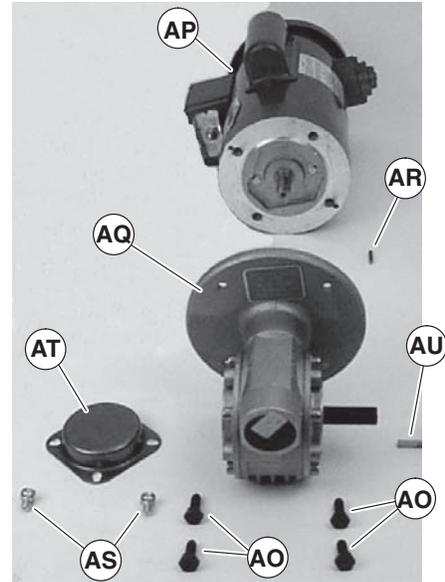

Figure 28
- Remove four screws (Figure 28, item AO). Detach motor (AP) from gear reducer (AQ). Retain motor output shaft key (AR).
14. With key (Figure 28, item AR) in keyway, slide motor (AP) and gear reducer (AQ) together. Install screws (AO) and tighten.